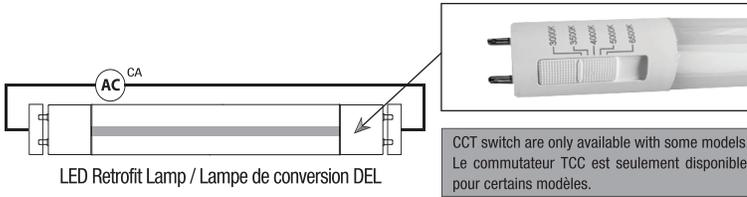

Fig. 1B Double end connection / Connexion à double extrémité
8. Select the desired LED color temperature by using the switch on the LED T8 tube as shown in Fig. 1B.